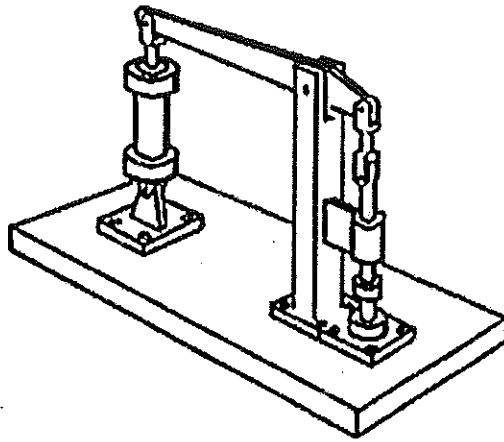

Figure Q08(b)
- b) Steel bolts are to be pressed using a double-acting cylinder which is given below in **Figure Q08(b)**.